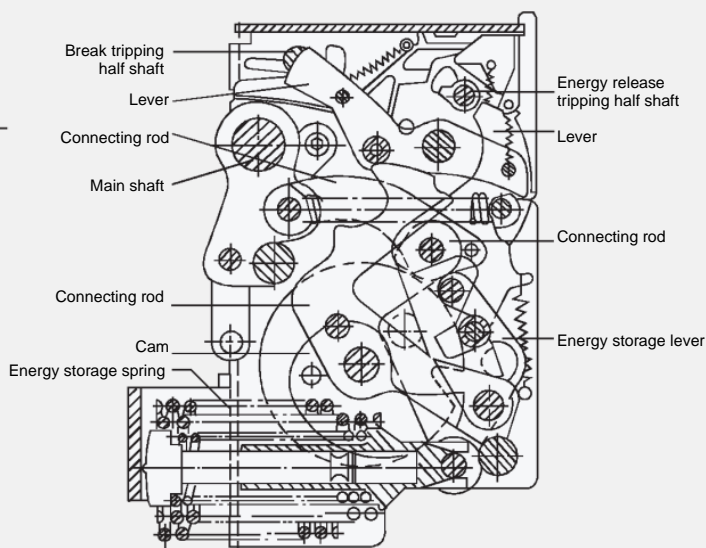

Figure 10
2. Operation mechanism (Figure 10)